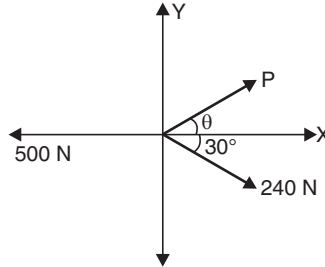

Fig. 2.50
**Example 2.30.** The force system shown in Fig. 2.50 has resultant of 200 N towards the Y-axis. Compute the values of P and  $\theta$  required to give this resultant.